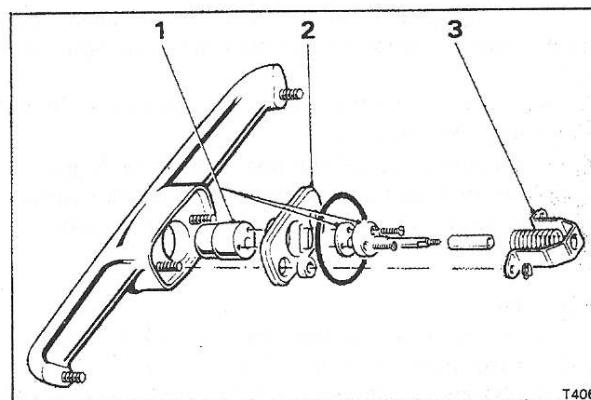

Fig. S37 Private lock mechanism
### Private lock mechanism - To dismantle (see Fig. S37)
6. Remove the rear section of the private lock by releasing the two retaining screws (see Fig. S37).
#### Private lock mechanism - To assemble (see Fig. S37) Silver Shadow II, Bentley T2, Silver Wraith II and all Corniche cars